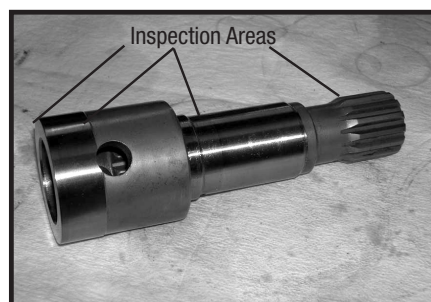

Figure 20
15. Remove coupling shaft (12), by pushing on the output end of shaft. SEE FIGURE 19. Inspect coupling shaft bearing and seal surfaces for spalling, nicks, grooves, severe wear or corrosion and discoloration. Inspect for damaged or worn internal and external splines or keyway. SEE FIGURE 20. Replace coupling shaft if any of these conditions exist.